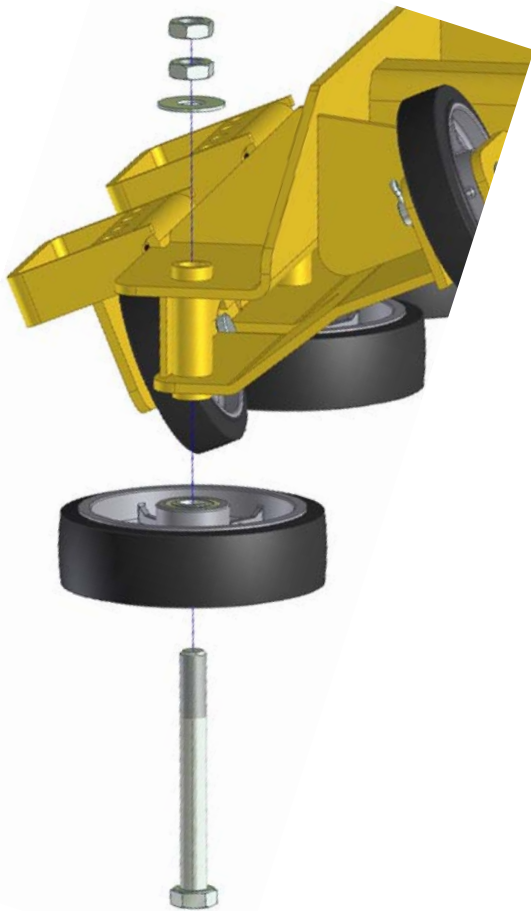

Figure 2
2. Assemble the six 10" x 3" wheels to the carriers using the 1"-14 x 9" bolts, bearings, shields, flat washer and two 1"-14 jam nuts on each bolt. See Figure 2.